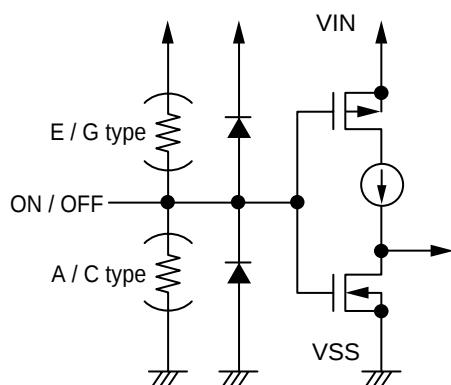

Figure 21
The ON / OFF pin is configured as shown in **Figures 21** and **22**. In the S-1135 Series A / C / E / G types, the ON / OFF pin is internally pulled up or pulled down to V_{SS} when in the floating status, so the VOUT pin is set to the V_{SS} level. In the S-1135 Series B / D / F / H types, the ON / OFF pin is not internally pulled up or pulled down, so do not use these types with the ON / OFF pin in the floating status. When the ON / OFF pin is not used in the S-1135 Series B / D / F / H types, connect the pin to the VIN pin in the B / D types, and connect it to the V_{SS} pin in the F / H types.
*1. Note that the IC's current consumption increases as much as current flows into the pull-up / pull-down resistor when; the ON / OFF pin is connected to VIN in the A / C type, the ON / OFF pin is connected to V_{SS} in the E / G type (**Figure 21**).